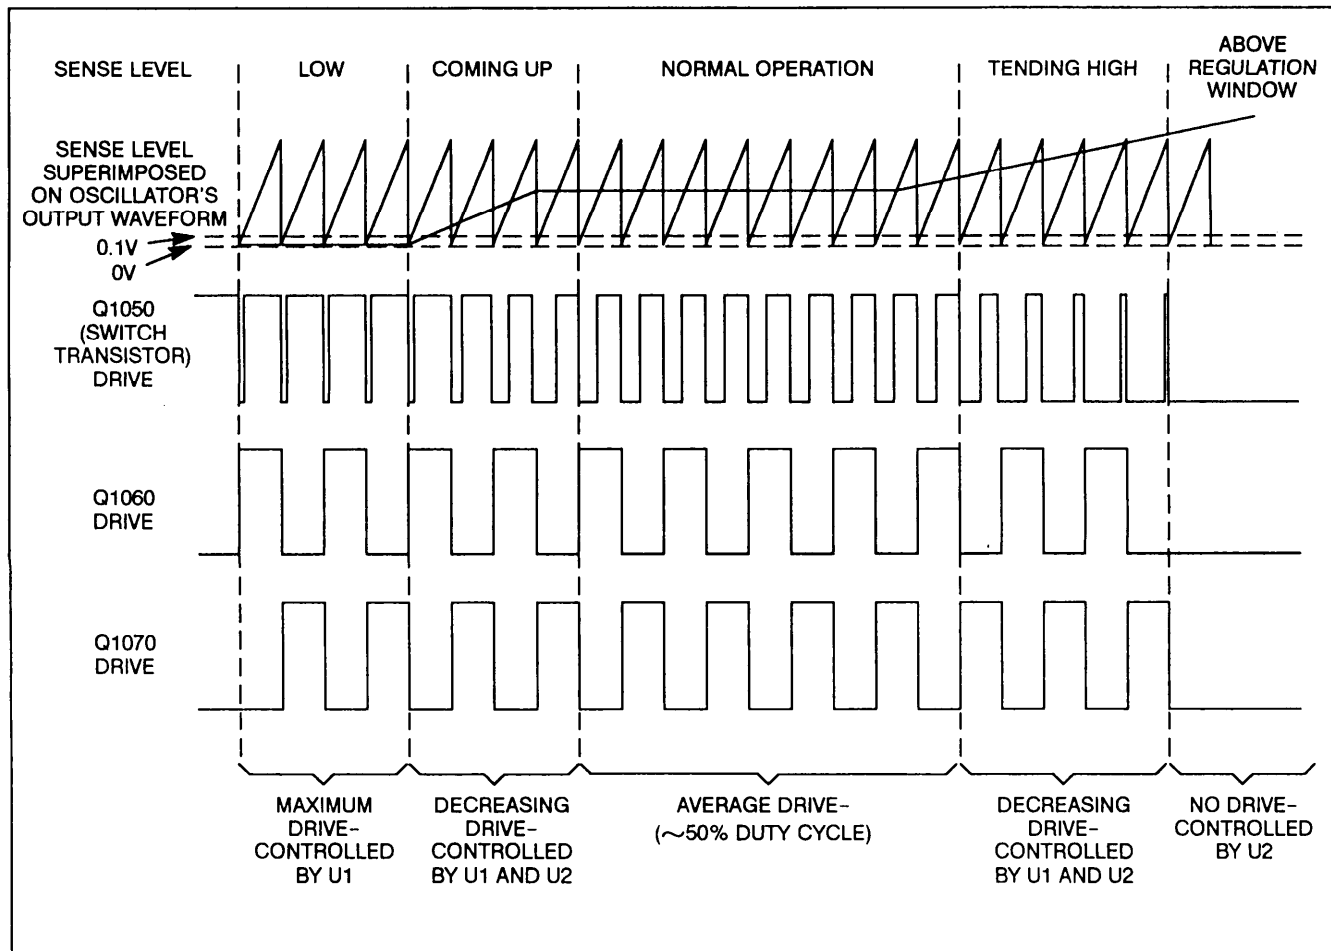
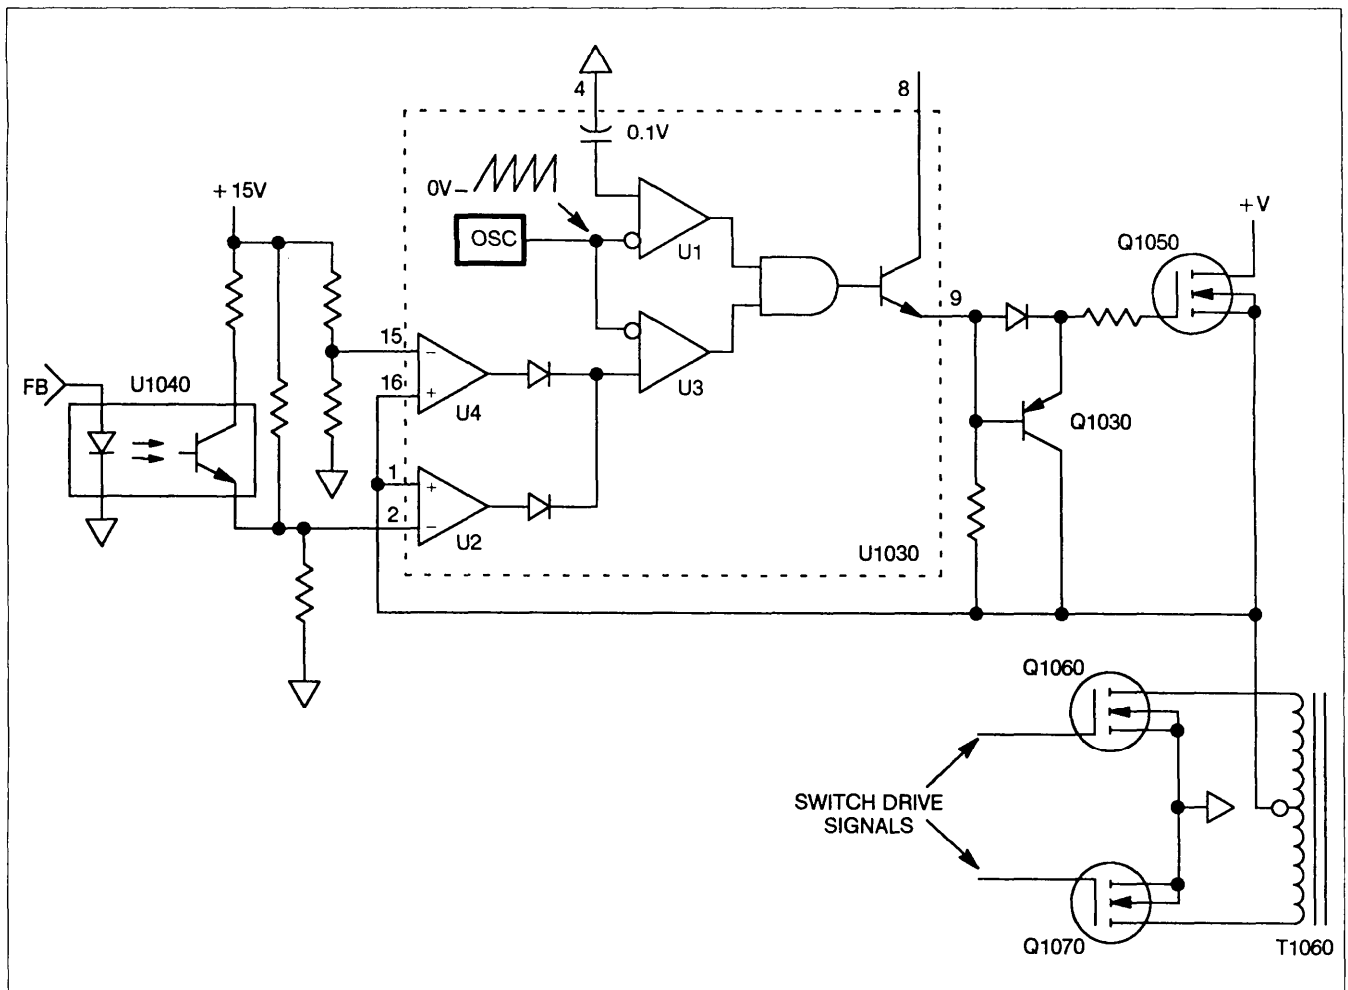

Figure 3-9. Timing relationships of the Inverter Drive signals.
Figure 3-10. Simplified schematic of control network.
**PREREGULATOR START-UP.** As the supply for the Preregulator Control IC is established, an internal switching oscillator begins to run. The oscillator generates a repetitive triangular wave (as shown in fig. 3-9) at a frequency determined primarily by R1032 and C1032. The simplified schematic of Figure 3-10 illustrates the voltage control functions of U1030.